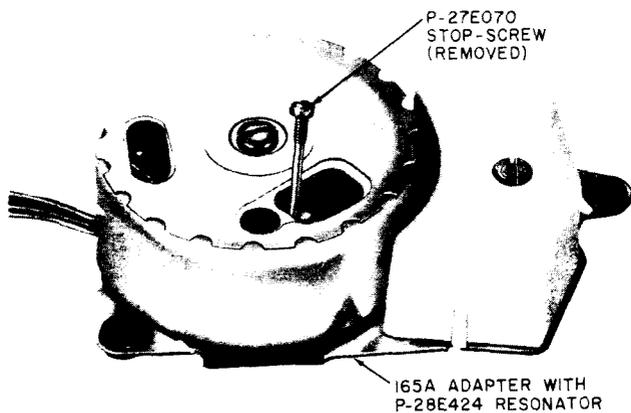

Fig. 7—PIA Ringer With 165A Adapter and Resonator
2.20 The *PIA* ringer normally is used with a 165B adapter when mounted in a horizontal position and in 165A adapter when mounted in a vertical position. The 165A and 165B adapters are furnished with a plastic resonator as shown in Fig. 7. The resonator serves to increase the volume of the ringer.